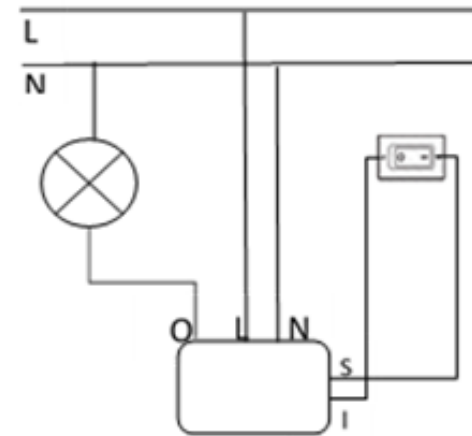

Figure 1 Diagram for connecting the device
- 3- Connect the device in accordance with the circuit diagram presented in Figure 1.